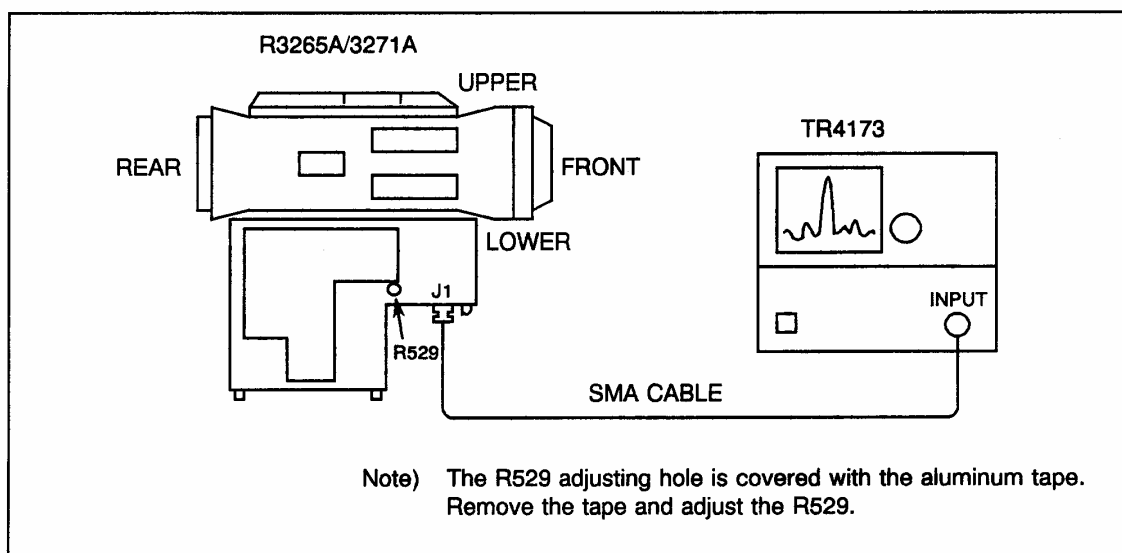

Figure 5-17 Sampler Synthe Adjustment
- (4) Connect the SMA cable between J1 and TR4173 (see Figure 5-17).
- (5) Turn on the POWER switch of R3265A/3271A, and set the controls as follows: